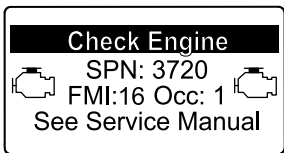

Figure 53
- Engine warning SPN 3720, FMI 16 (Figure 53)